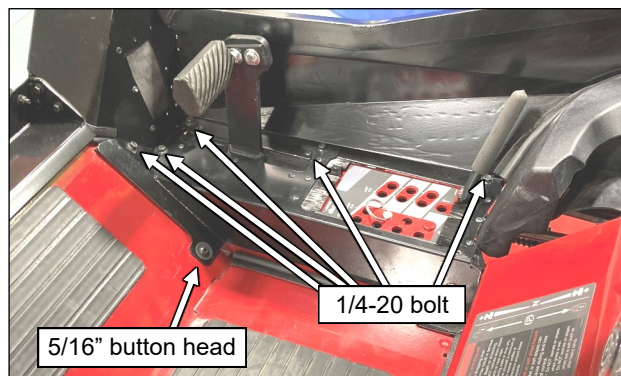

Fig. 10.3 (Deck Control Cover)
- 10.3 Per fig. 10.3, install the deck height control cover over the pin box and deck height lever, and secure to the cab with 1/4" x 5/8" lg. bolts and nuts. Tighten snug.